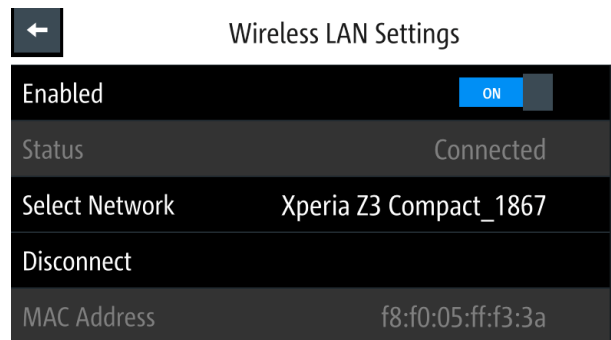

Figure 6-31: WLAN connected
3. Select the "Select Network" to connect the required WiFi network. If connection is successful, the "Status" shows "Connected". See Figure 6-31. When the connection is alive, the WLAN icon turns white on the device status bar. See "Device status bar" on page 33.